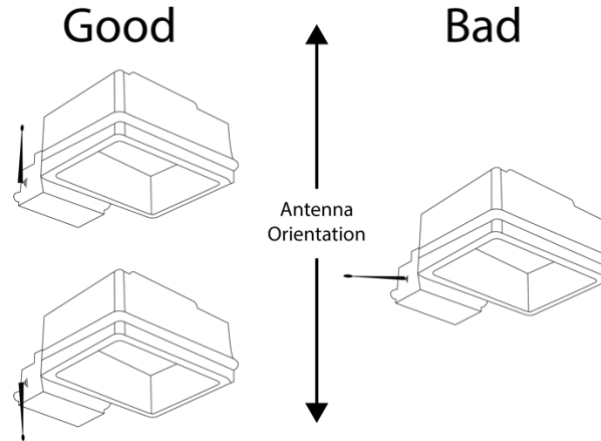

Figure 1 - Proper Antenna Installation
- When installing the EMB-S2-A into an enclosure, consideration of the external antenna position and interference is required in order to provide the most optimum wireless signal strength. Prior to permanently mounting it, make sure the antenna points directly upward or downward and is free of any metal objects within 12 in. of the antenna (Figure 1).